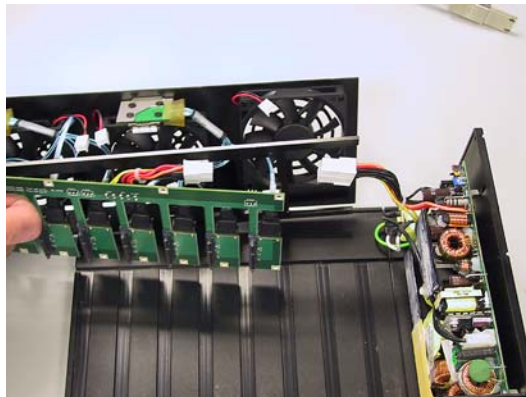

Figure 8-15
- 12) Now the SATA Backplane can be removed (Figure 8-15). Perform steps 1) through 11) in the reverse order with the replacement Backplane provided by MaxVision support.